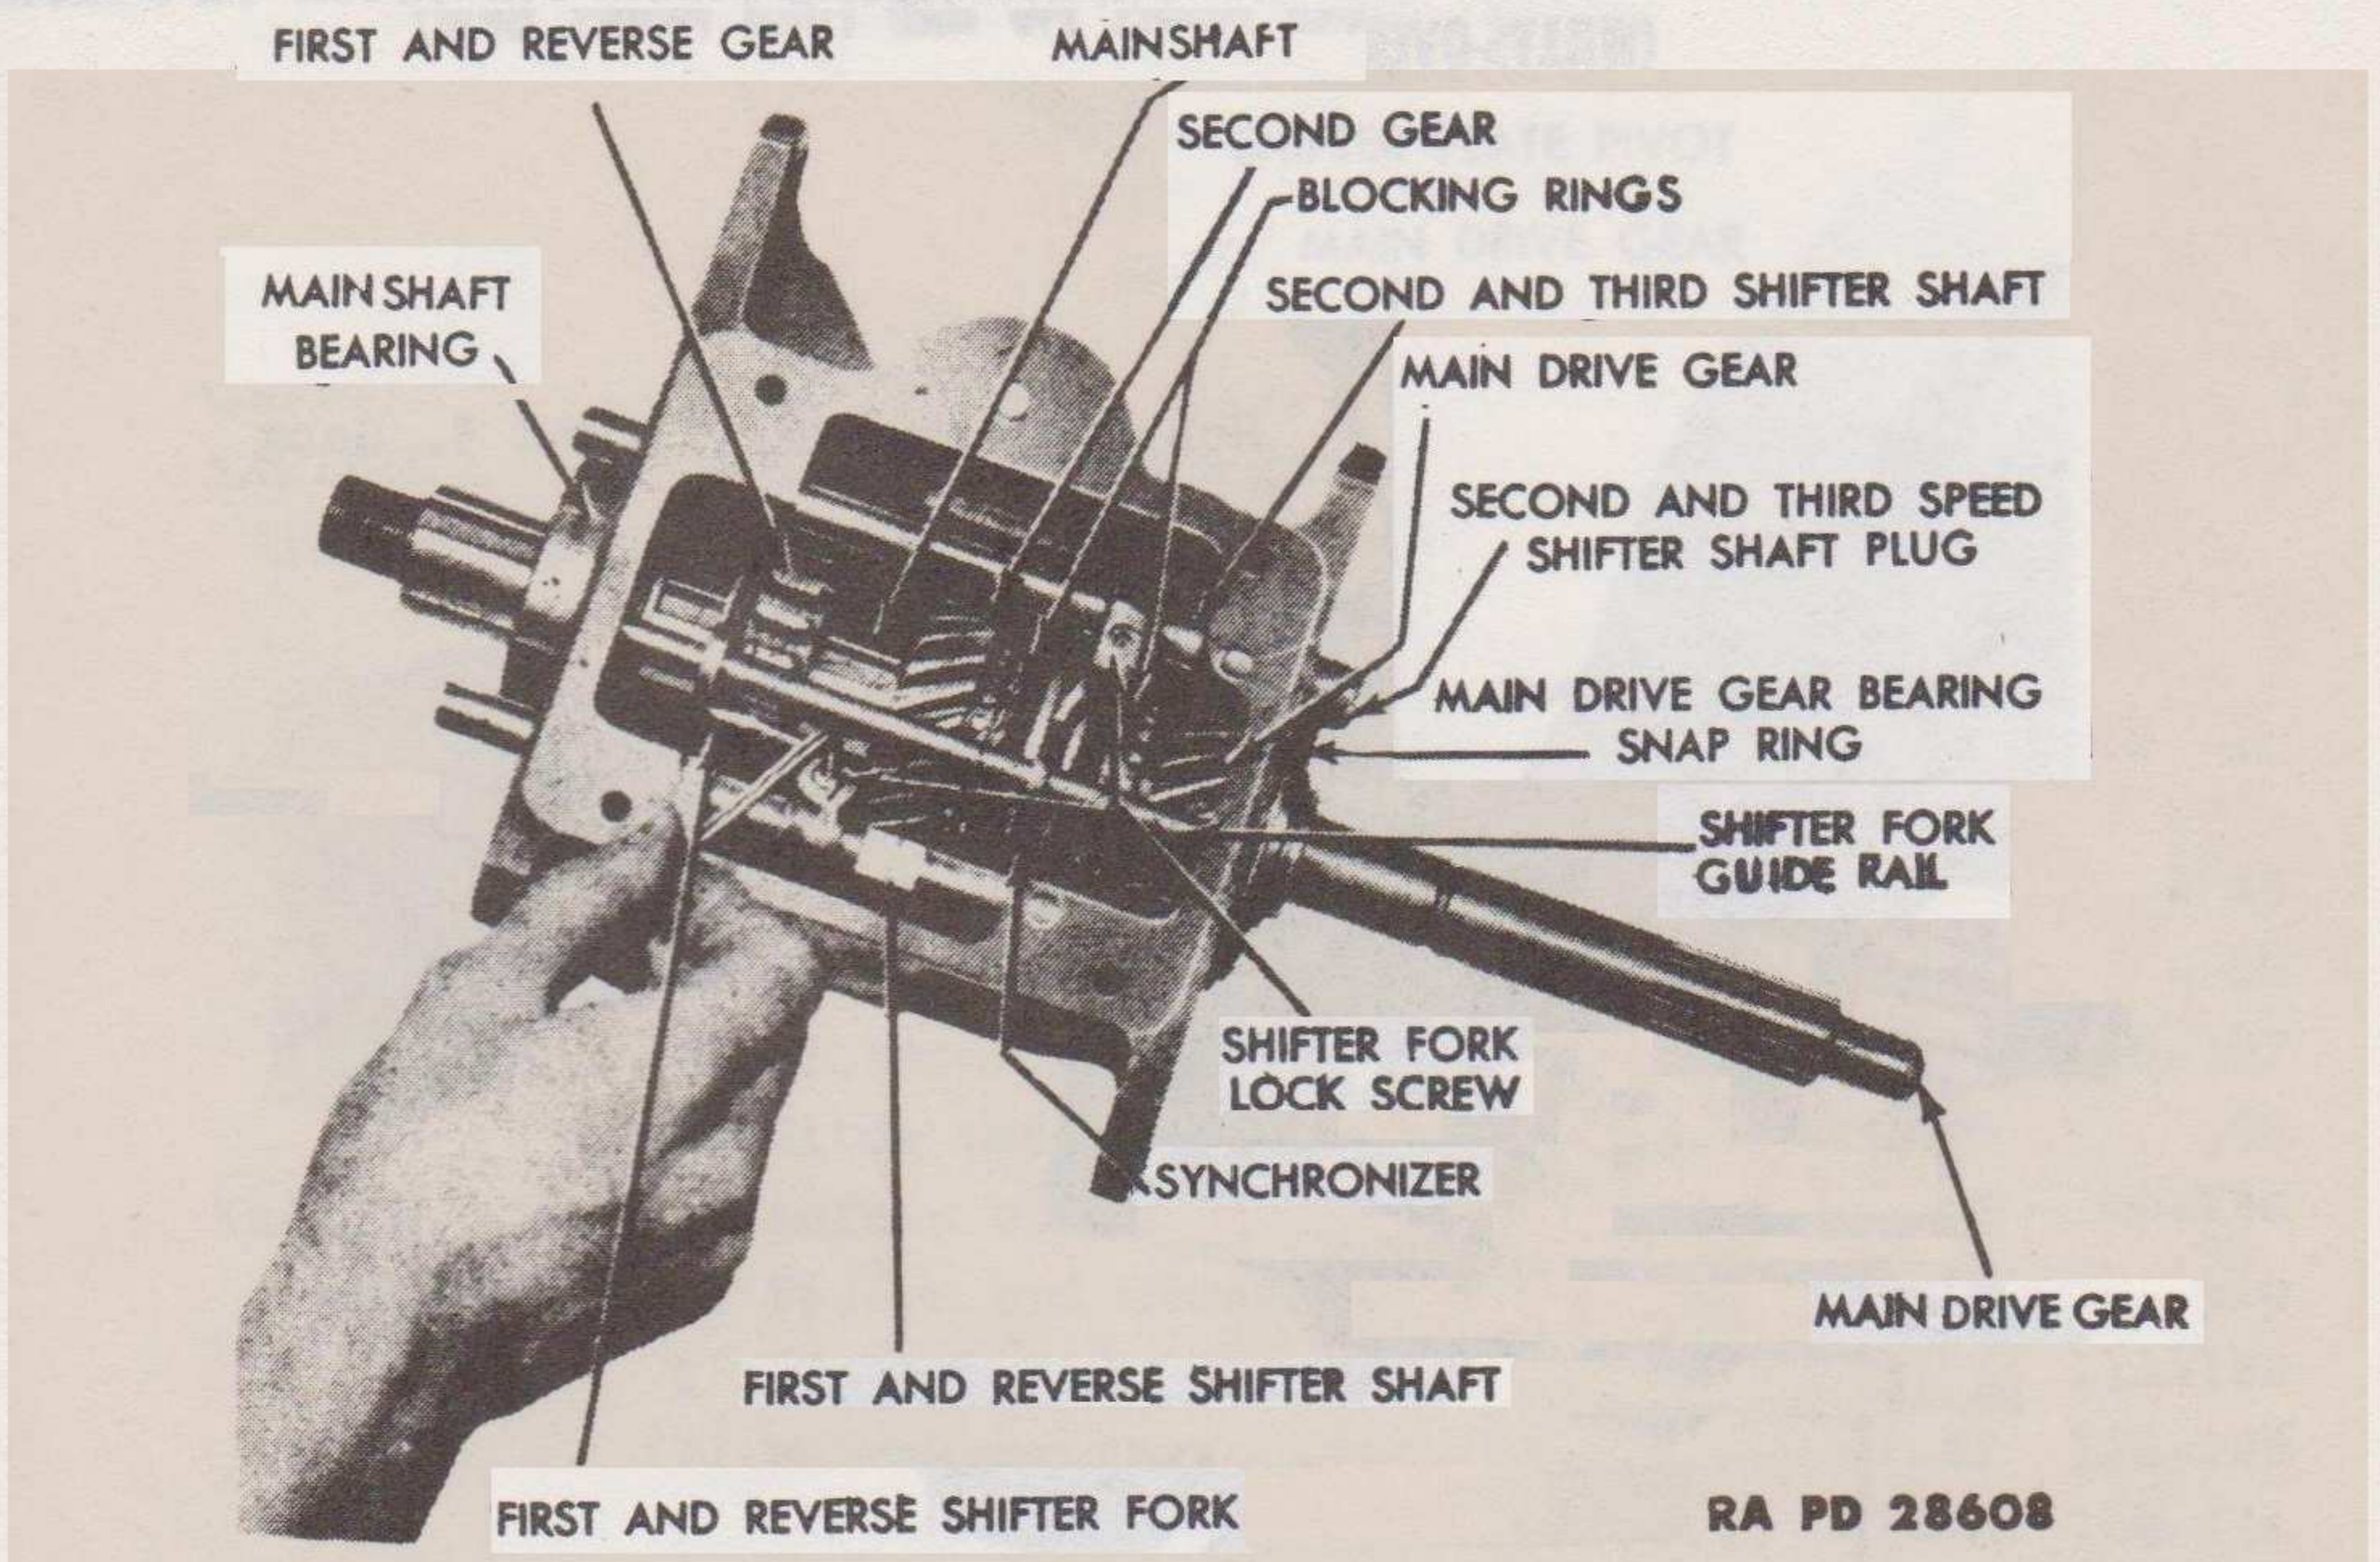
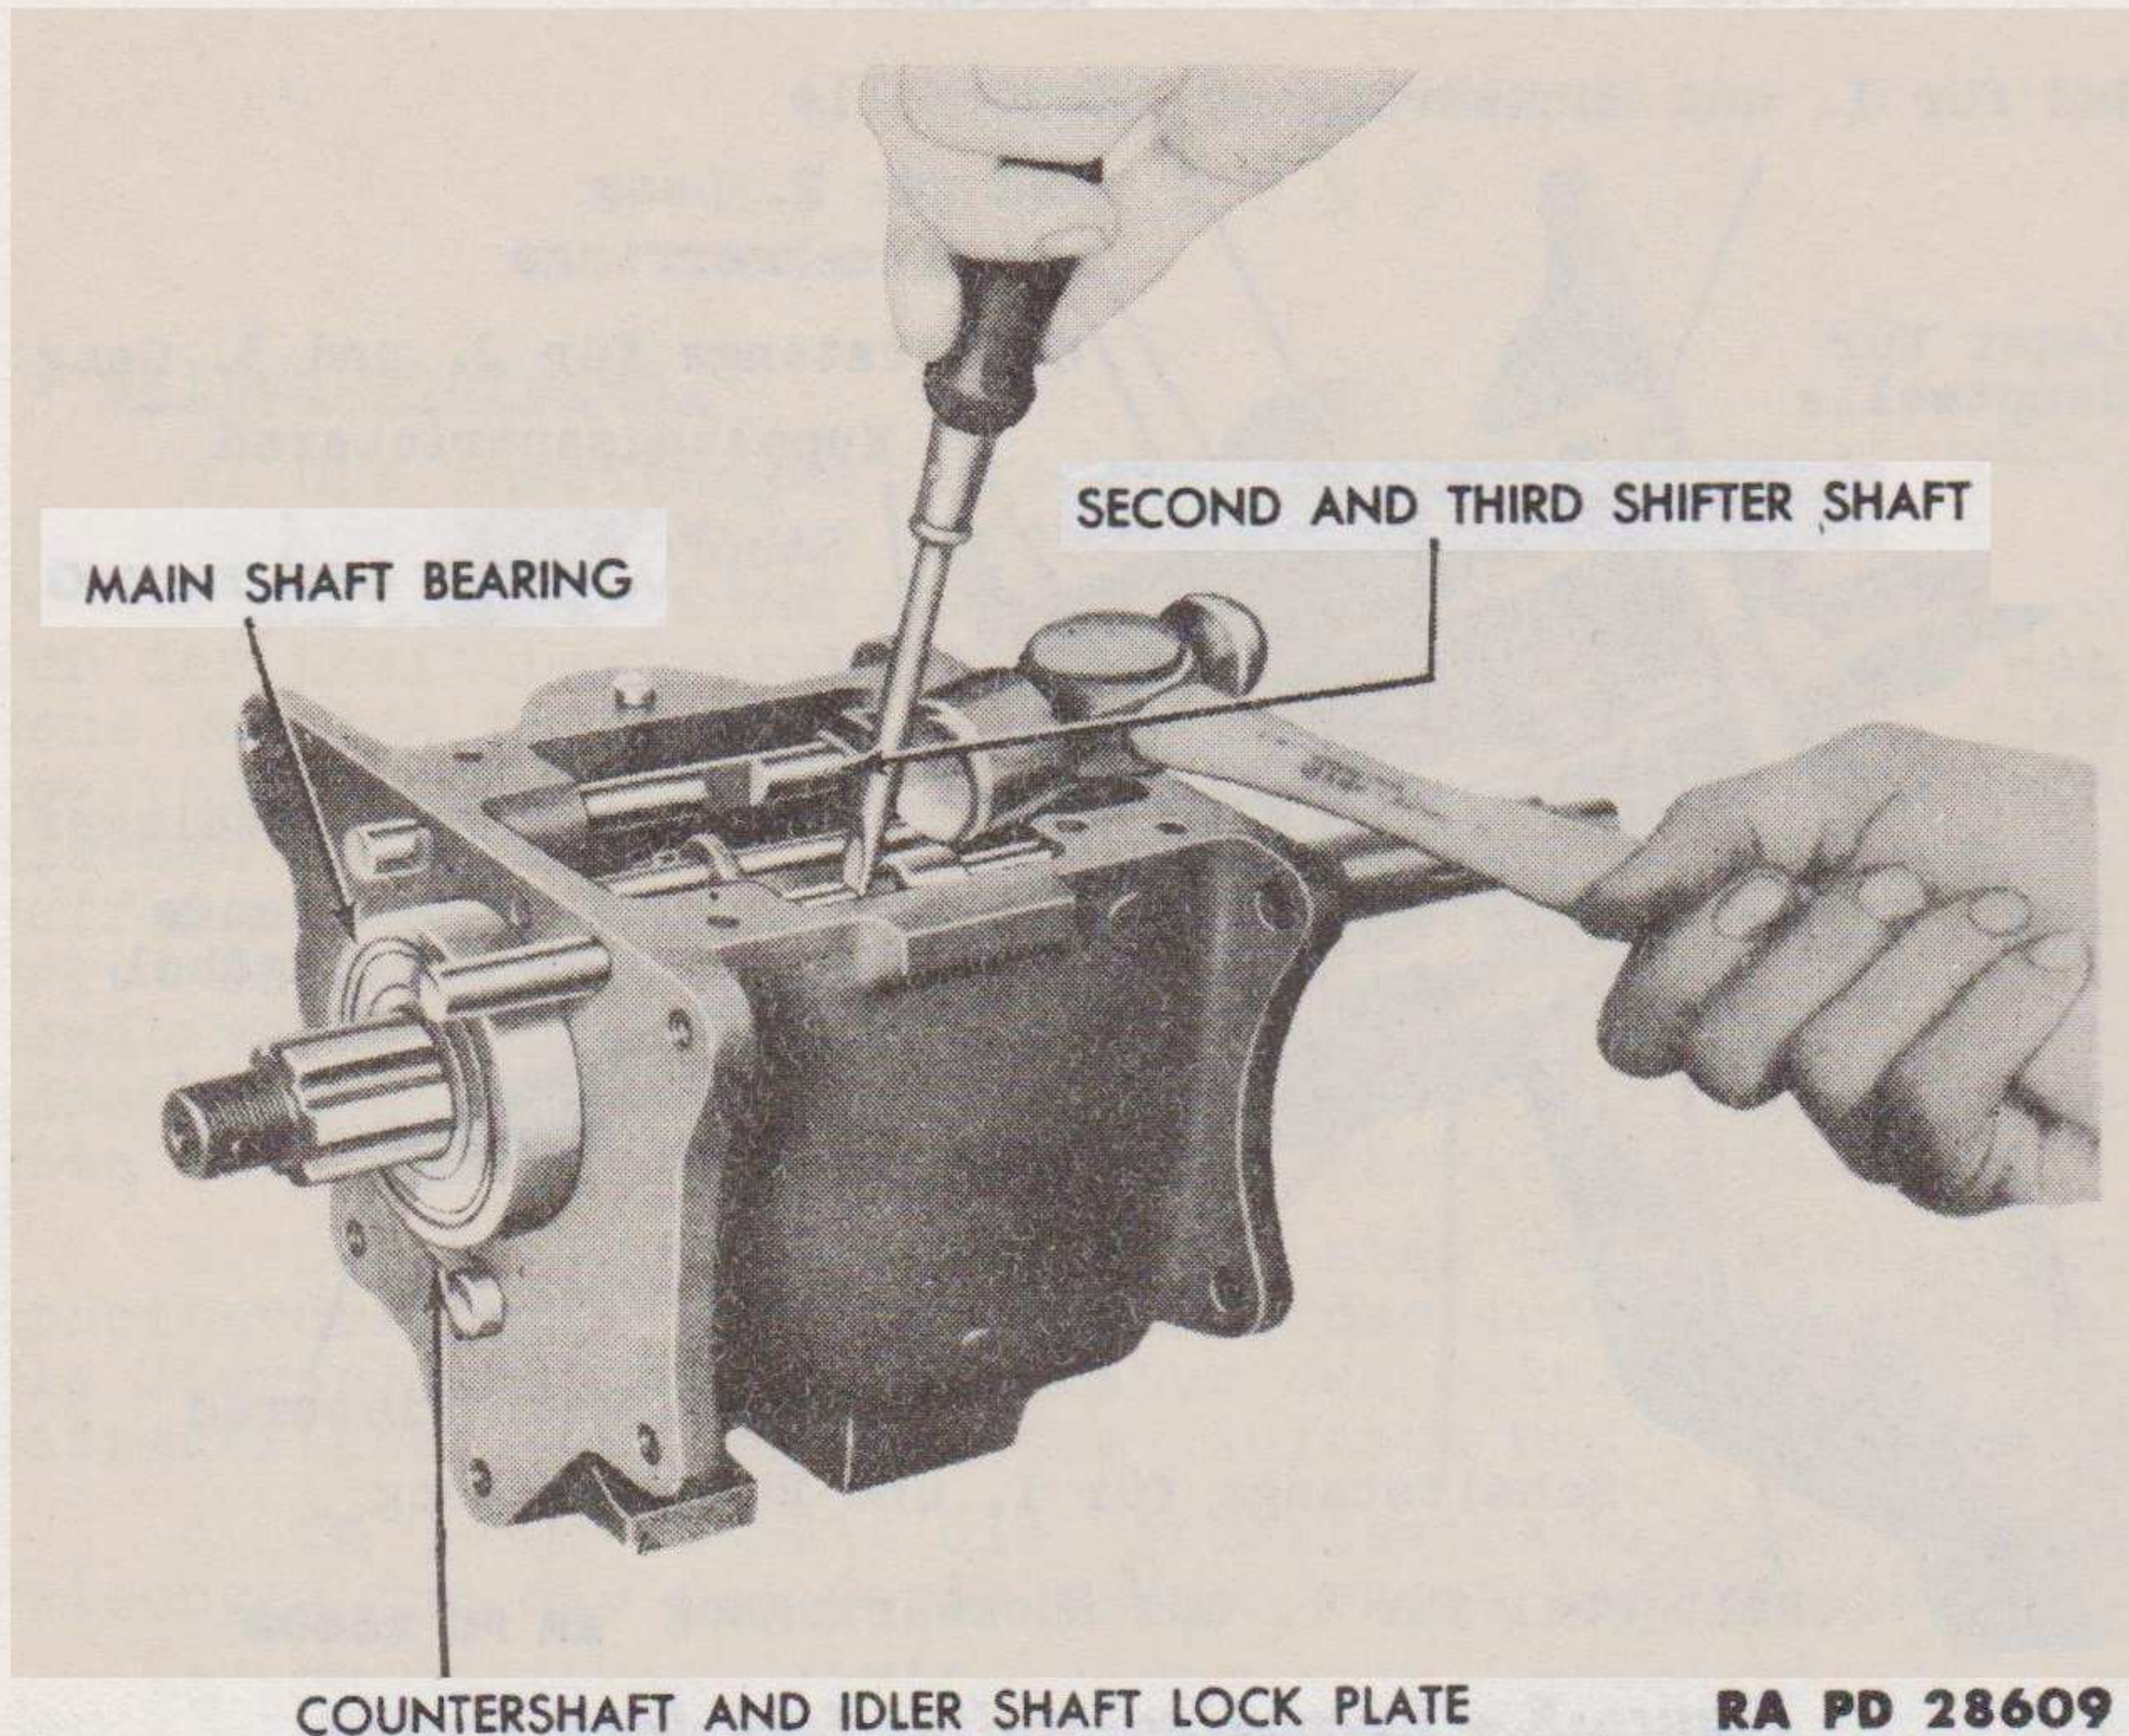

Figure 8 — Removing Shifter Fork Lock Screws
Figure 9 — Removing Shifter Shafts
c. **Remove Shifter Fork Guide Rail** (fig. 8). Push the shifter fork guide rail out of the transmission.
d. **Remove the Low and Reverse, and the Second and High Shifter Forks.** Remove the shifter fork lock screw from each fork (fig. 8). Tap the shifter shafts part way out of the transmission (fig. 9), being careful not to lose the interlocking ball in each shaft. Hold the shifter fork and pull the shafts from the transmission.